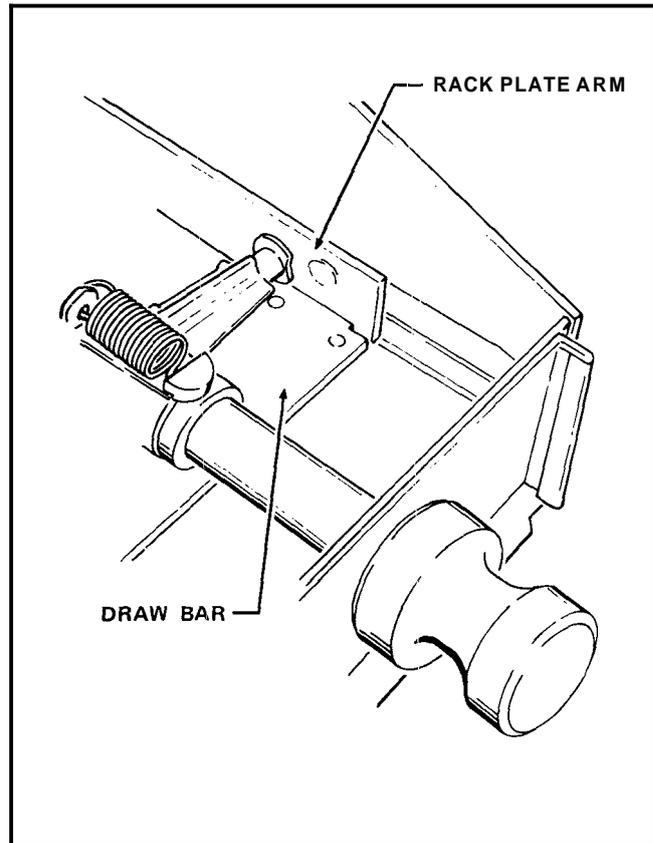

FIGURE 3-3
2. Check to be sure the right end of the Draw Bar is properly fit under the notched part of the Rack Plate Arm. Compare with the left end fitting of both parts. See Figure 3-3.